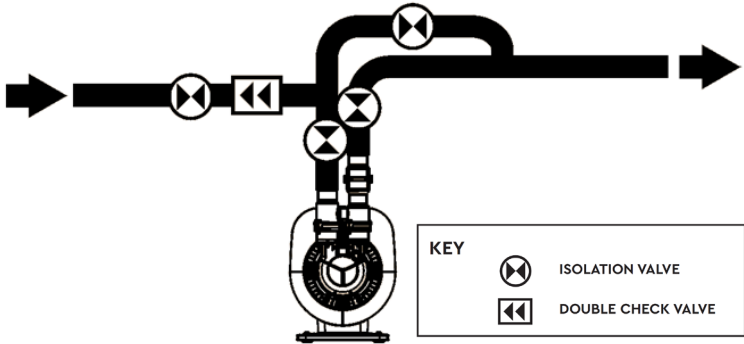

Figure 2
- To meet the requirements of the Water Supply (water fittings) Regulations, a type EC – verifiable double check **valve (not supplied) must be fitted** (Fig. 2).
- It is advisable to fit a bypass pipe and isolating valve. This will allow removal of the pump for maintenance and servicing and ensure the water supply into the property is still available during that period (Fig. 2).